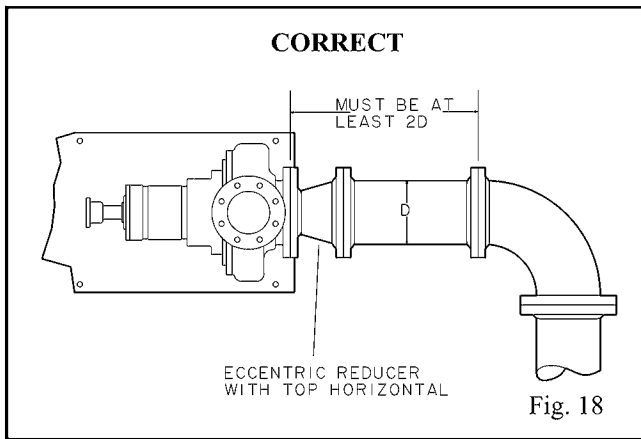

Fig. 18
1. Use of elbows close to the pump suction flange should be avoided. There should be a minimum of two pipe diameters of straight pipe between the elbow and suction inlet. Where used, elbows should be long radius (Fig. 18).